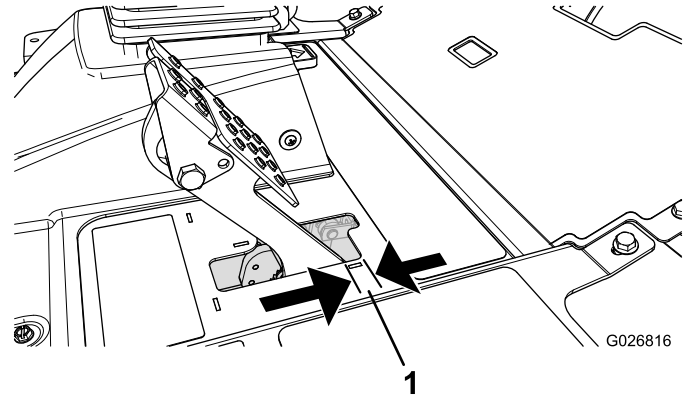

Figure 64
Adjust the brakes when there is more than 2.5 cm (1 inch) of free travel (Figure 64) of the brake pedal, or when more holding force is required. Free travel is the distance the brake pedal moves before you feel braking resistance.
2. Tighten the rear nut to move the cable backward until brake pedals have .63 to 1.27 cm (1/4 to 1/2 inch) of free travel (Figure 64), before wheel lock up is achieved.